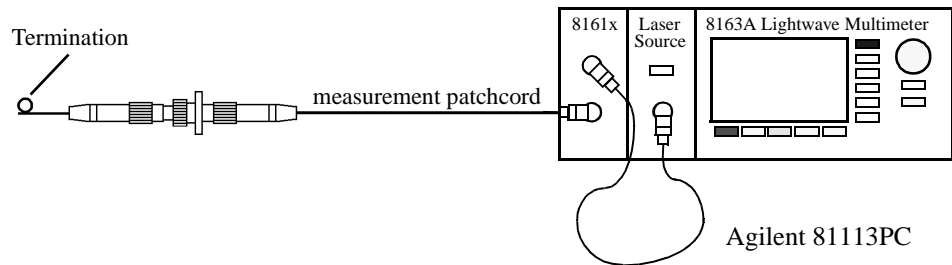

Figure 24 Measuring the Return Loss of the DUT (in this example: a Connector Pair)
- 1 Attach the DUT to the measurement patchcord. In the example shown in Figure 24, the DUT is a connector pair.